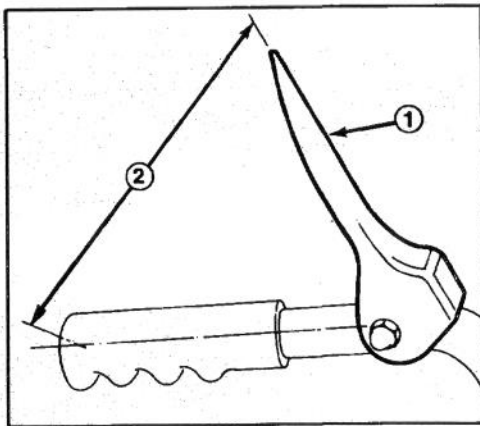

Figure 6
3. Check the distance between the center of the handle and tip of the auger control lever (Fig. 6). Distance should be approximately 7½ inches (19 cm).